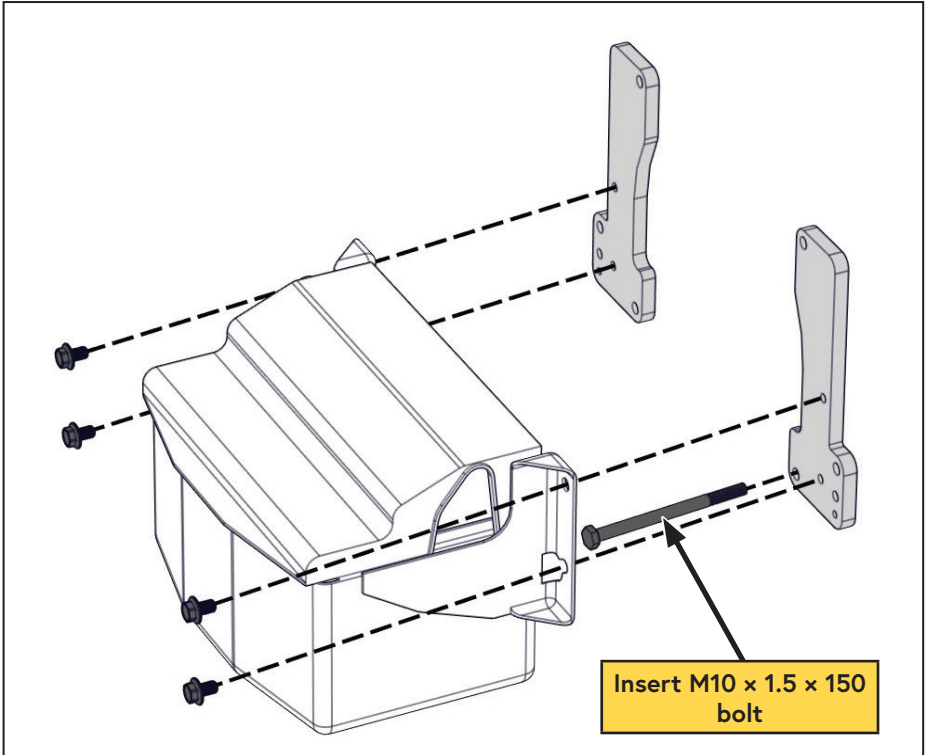

Figure 71 — Installing the battery box
- ☐ Insert the M10 x 1.5 x 150 bolt into the bottom of the rear battery box mount (this will be inaccessible once the battery box is attached) and attach the battery box finger tight to the battery mounting brackets (Figure 71).